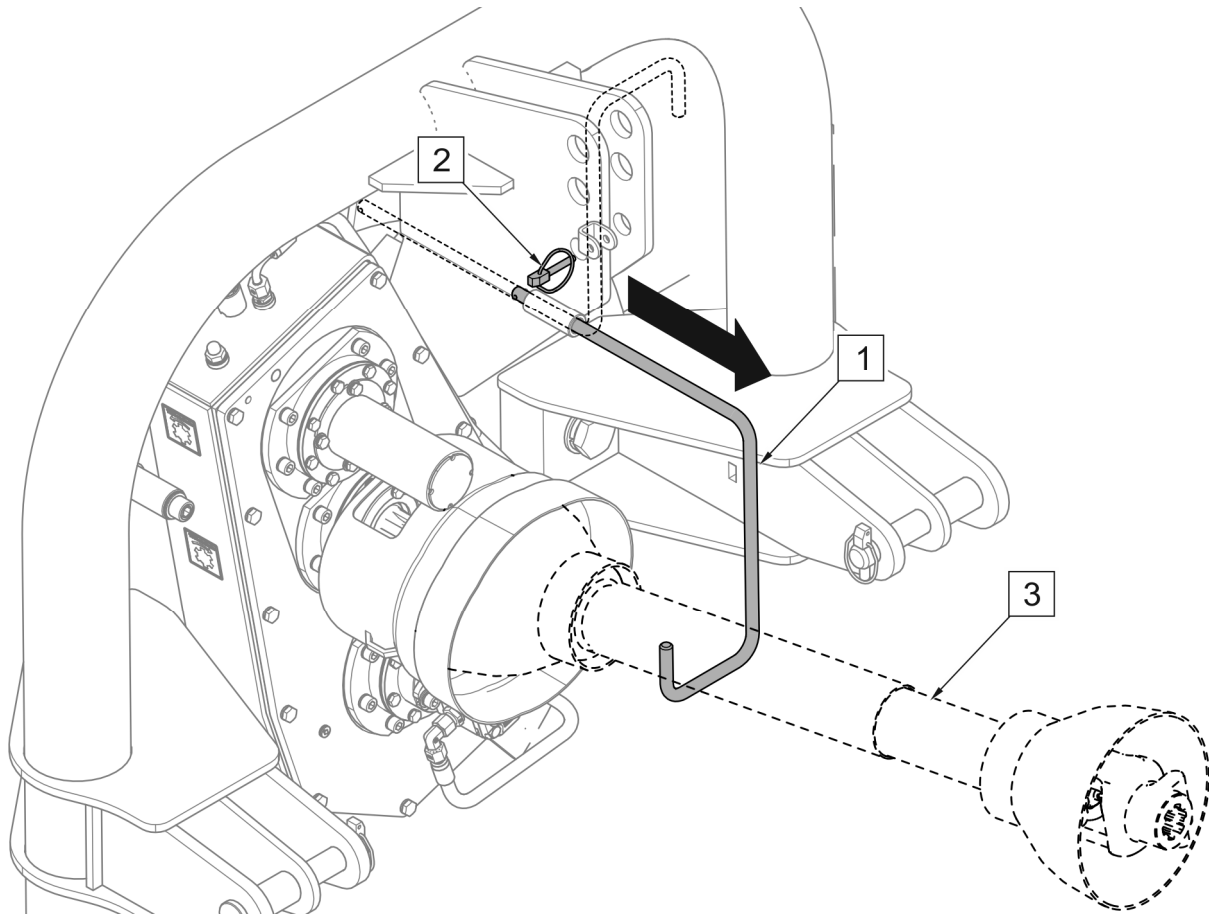

FIGURE 4.20 PTO shaft bracket (machine mounted on the front three point linkage)
- 6) Disconnect PTO shaft and place it on PTO shaft bracket (FIGURE 4.20).